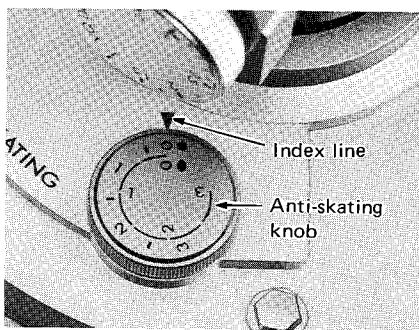

Fig. 13
1. Turn the anti-skaing knob until the "0" mark is aligned with the index line. (See Fig. 13)